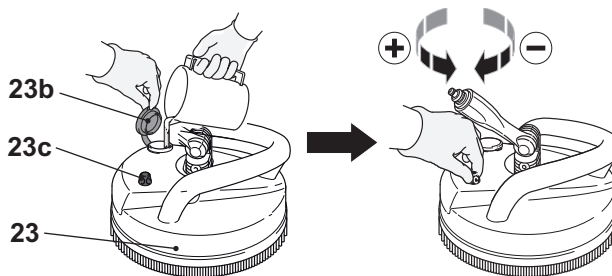

Fig. 14
6. Open the cap (23b) and fill in suitable detergent and close the cap afterwards (Fig. 14).